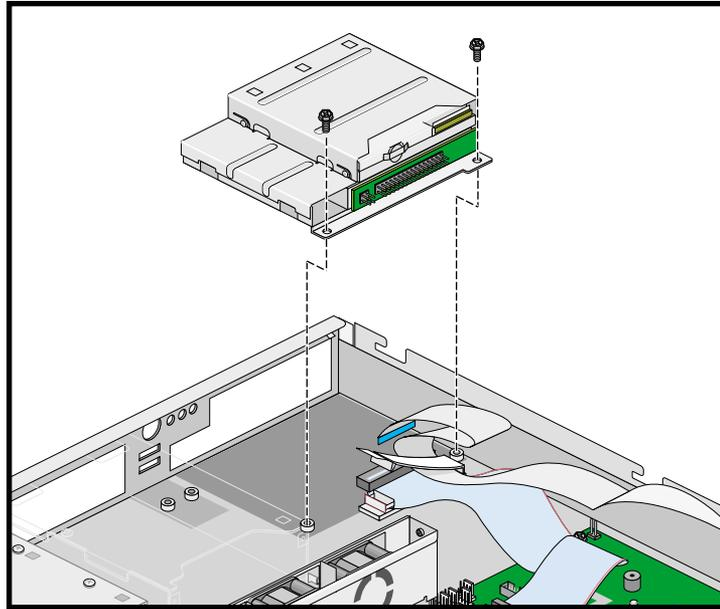

Figure 2-28 Removing the Drive Module
6. Remove two screws that hold the drive module to the chassis as shown in Figure 2-28.
7. Gently slide the drive module back, and then lift it out of the chassis as shown in Figure 2-28.